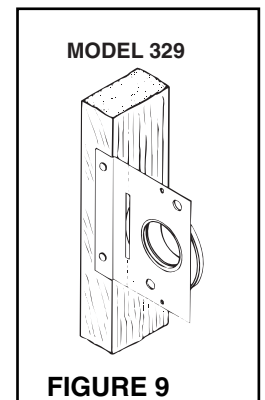

FIGURE 9
6. When using Model 329, glue elbow to mounting plate. Attach to stud as shown in Figure 9.